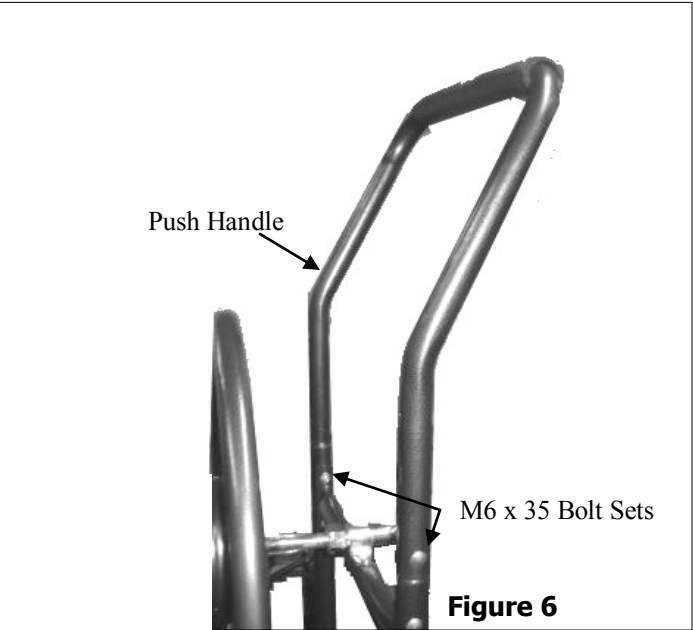

Figure 6
6. Assemble Push handle onto Cart Frame using (2) M6 x 35 Bolt Sets. See Figure 6